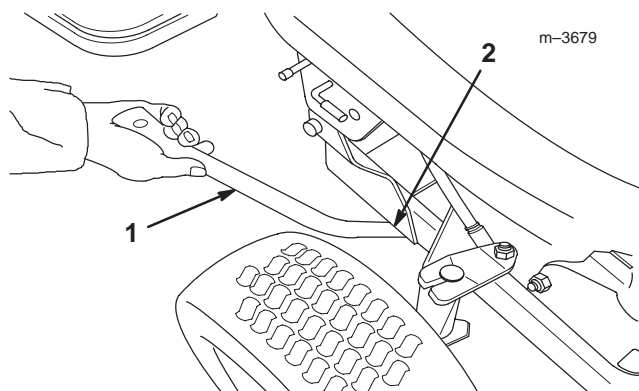

Figure 14
C. Slide the round end of the crank support under the notch in the snowthrower frame (Fig. 14).